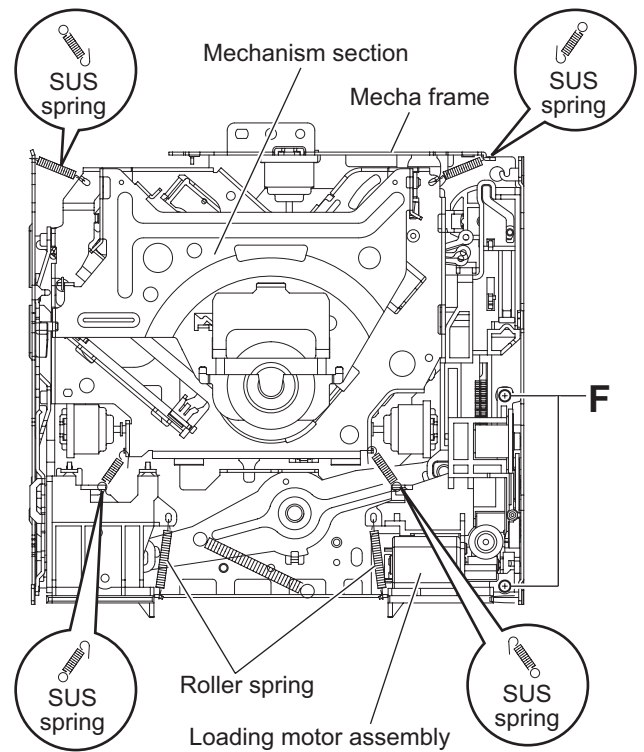

Fig.9
3.2.5 Removing the mechanism section (See Fig.9 and 10)
- From the top side of the CD MECHANISM assembly, remove the two screws **F** attaching the loading motor assembly. (See Fig.9.)
- Remove the two roller springs on the top side of the mecha frame. (See Fig.9.)
- Remove the four SUS springs on the top side of the mecha frame. (See Fig.9.)